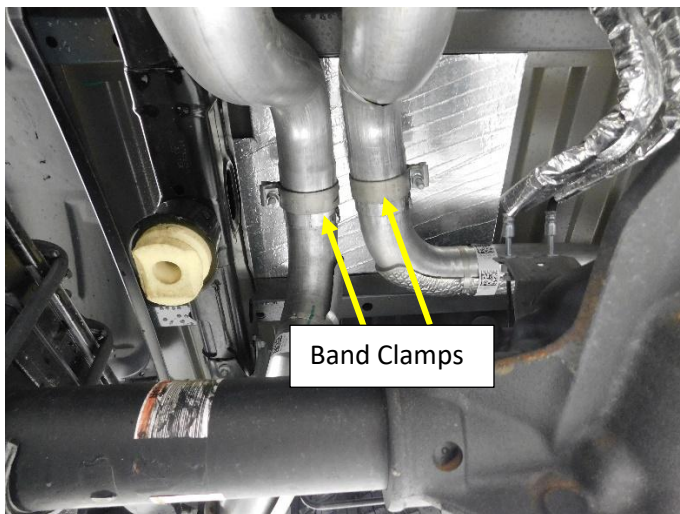

Figure.1
2. Loosen the 15mm Nuts on the tail pipe band clamps directly over the rear axle. (Non-Hybrid Shown) **Fig.1**